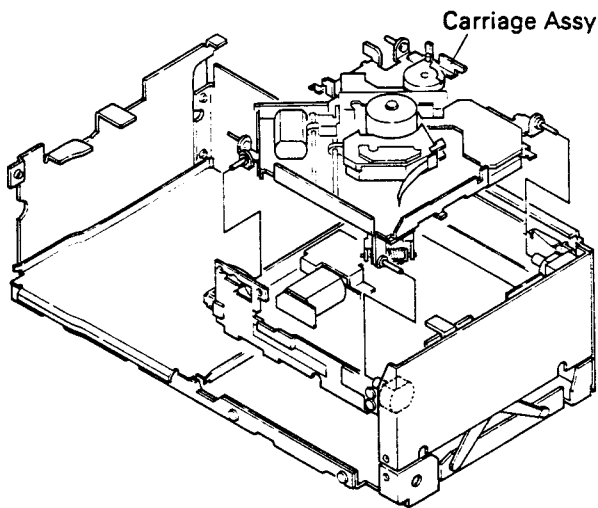

Fig. 10
- 15. Remove the carriage assy. (Fig. 10)